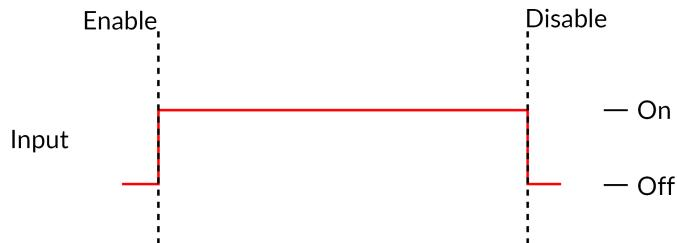

Figure 3.3: Constant Current Mode Driver Signal
- a) The **Continuous Wave** mode (Fig. 3.3) produces a continuous signal at the chosen current. This mode can only be triggered manually. When this mode is active, the driver channel will show **CW** under **MODE**. This mode has no additional sequence options.